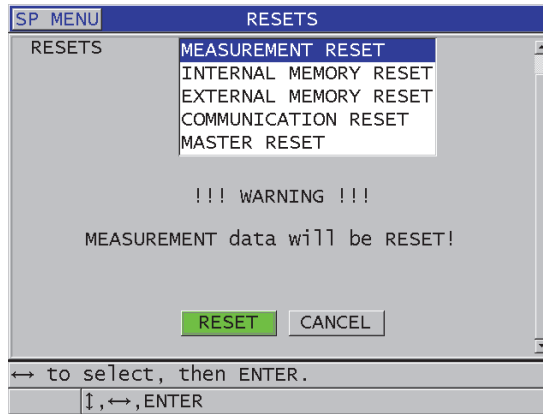

Figure 15-1 Activating a reset function
3. In the **RESETS** screen (see Figure 15-1 on page 289):